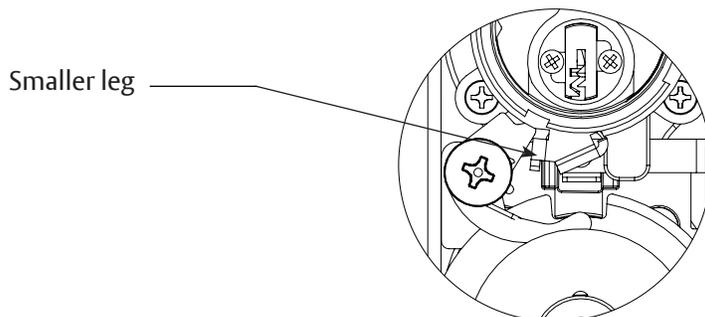

Figure 5
- b. Insert Key Override Ring into cylinder with smaller leg between cam as shown in Figure 5.